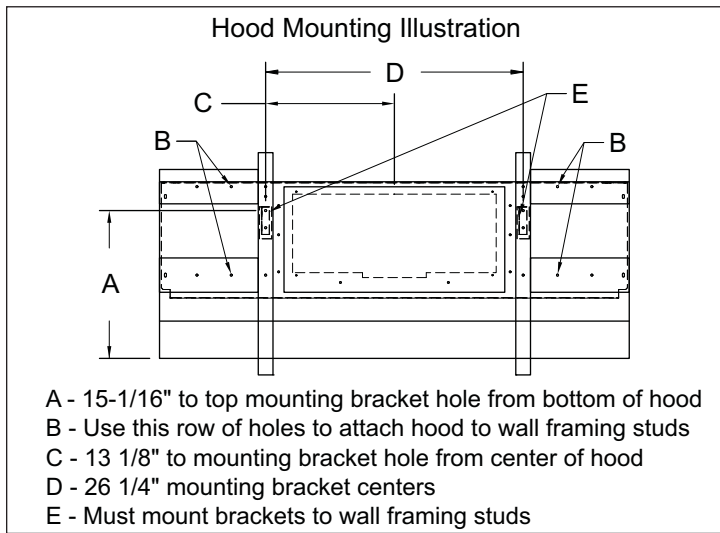

Figure 3
3. Install the mounting brackets onto the wall and ensure that they are attached to wall framing studs. These brackets will aid in mounting the hood onto the wall by temporarily holding the hood in place for you (See Figure 3).
9. Use the rows of holes provided (shown in figure 3) to drive mounting screws into the wall framing to properly support the hood.